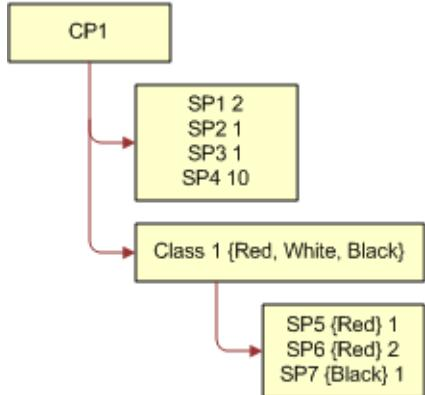

Figure 10. Customized CP1
- 2 CP1 is then customized as shown in Figure 10.
Figure 10 shows the customized CP1 with the following structure: CP1 has four simple product relationships defined (SP1, SP2, SP3, SP4) and a Product Class named Class 1. A further three simple product relationships (SP5, SP6, SP7) are defined and associated with Class 1. Class 1 is associated with an attribute with the values {Red, White, Black}. SP1 has a default quantity of 2, SP2 has a default quantity of 1, SP3 has a default quantity of 1, and SP4 has a default quantity of 10. SP5 has a default quantity of 1 and the attribute value Red. SP6 has a default quantity of 2 and the attribute value Red. SP7 has a default quantity of 1 and the attribute value Black.
- 2 Add CP1 to a quote or an order line item, and then customize CP1 as shown in Figure 10.